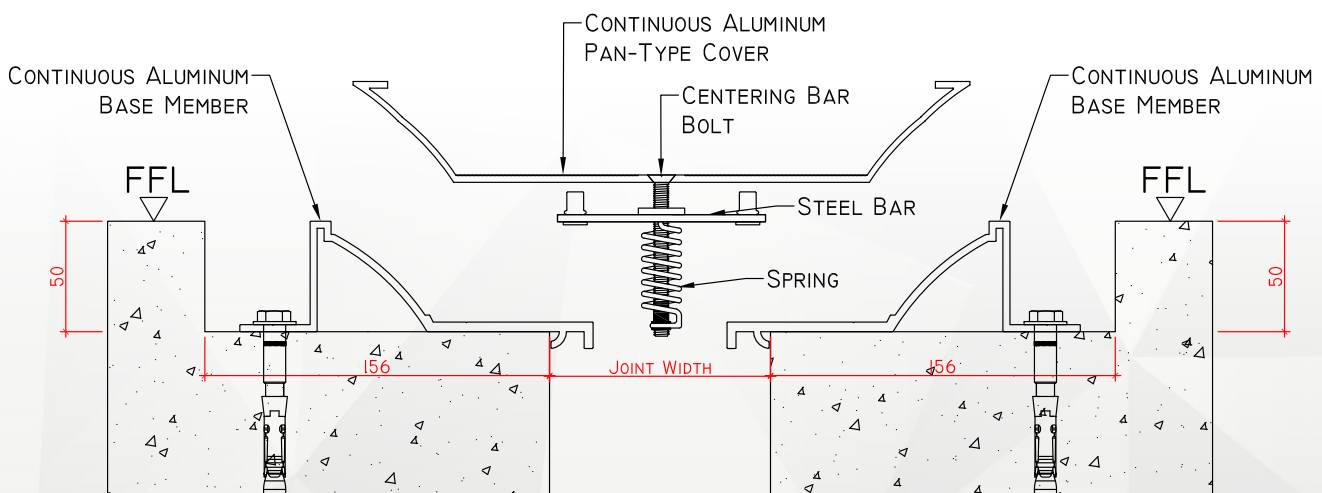

Figure 4.
14. Repeat Step 12 and Step 13 until all the centering bars are attached to the section of pan being installed (see Figure 4).